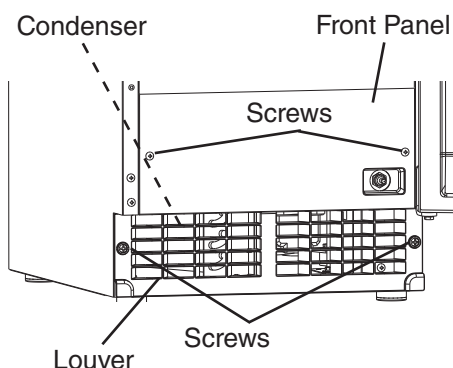

Fig. 49
- 2) Remove the 2 screws securing the front panel, then remove the panel. See Fig. 49.